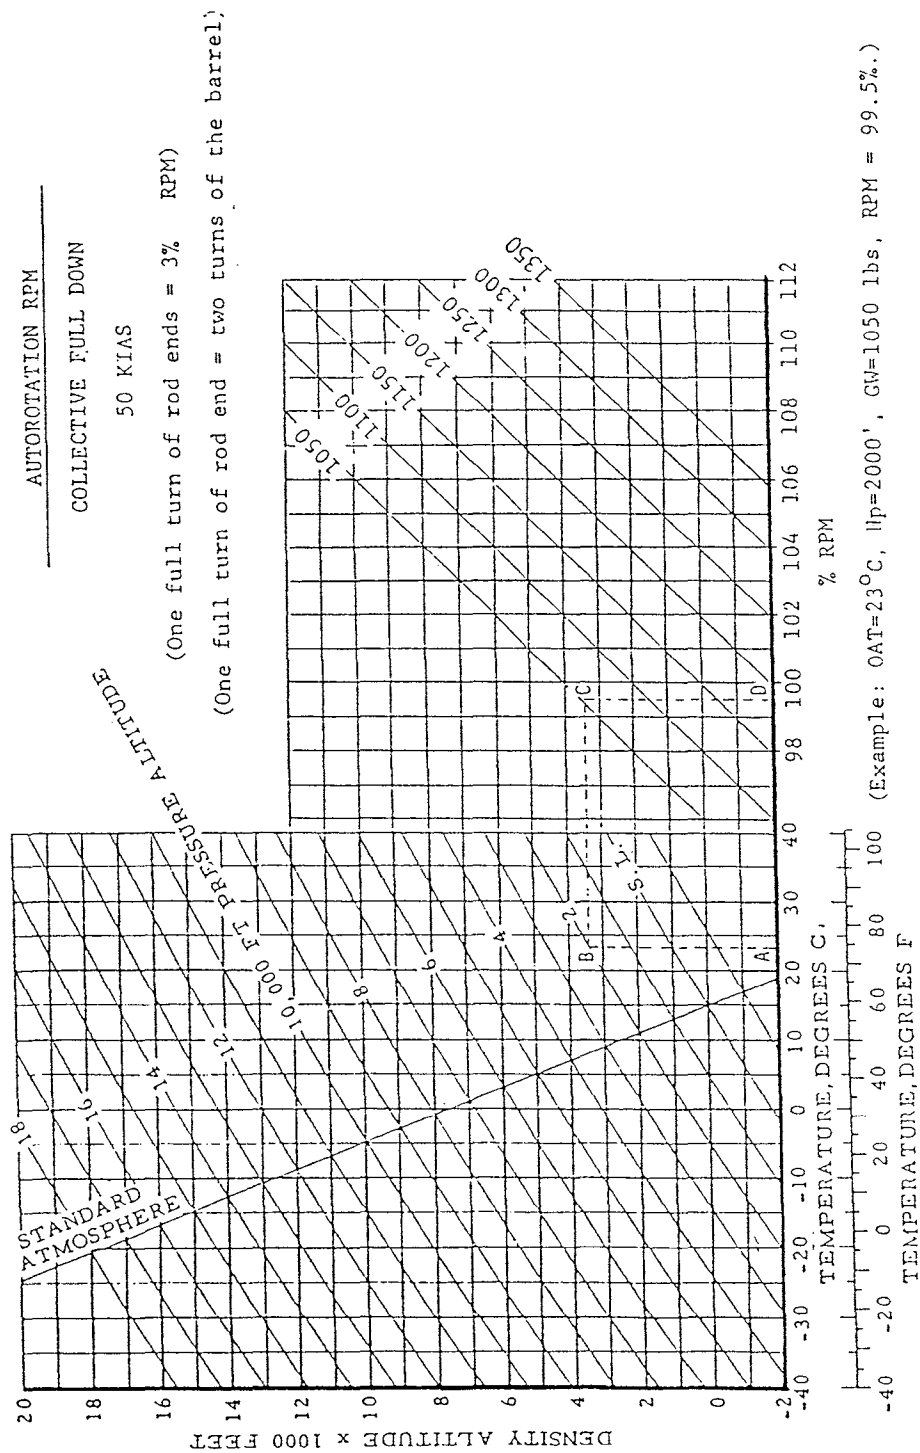

FIGURE 10-15
3. After each flight, refer to figure 10-15 and determine the following:
- d. Make adjustment to the main rotor pitch links as required to obtain test autorotation RPM within $\pm 1\%$ of chart RPM (see Figure 10-15).